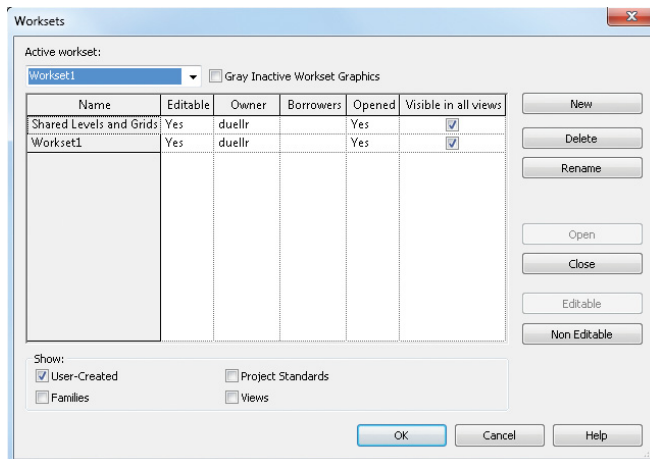

FIGURE 10.3 Worksets dialog box
2. The Worksets dialog box shown in Figure 10.3 opens. Your workset username appears in the Owner field. Currently, you own everything in the project. No one else can work on the project without your permission.